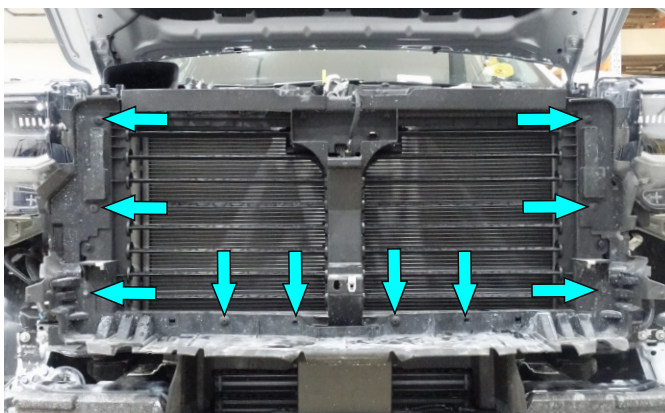

Fig.17
17. Remove factory bolts and clips. Next, remove factory plastic covers (fig.17).